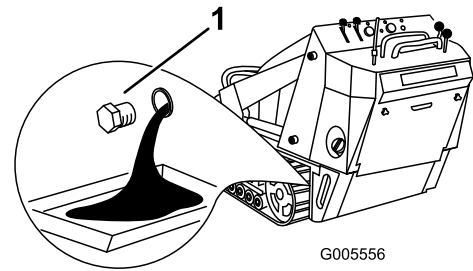

Figure 31
4. Remove the drain plug (Figure 31).